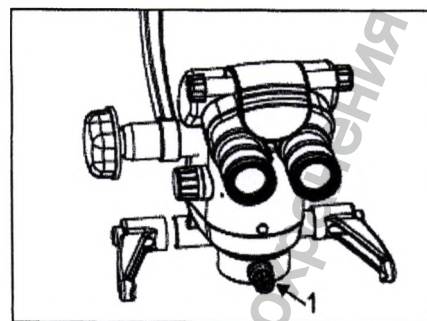

Fig. 19
4. Precise focusing is done with FOV knob (1, fig. 19) by means of its clockwise or counter clockwise rotation, or with the help of pedal putting the blades up and down. (for embodiments OPH, ENT, DNT)